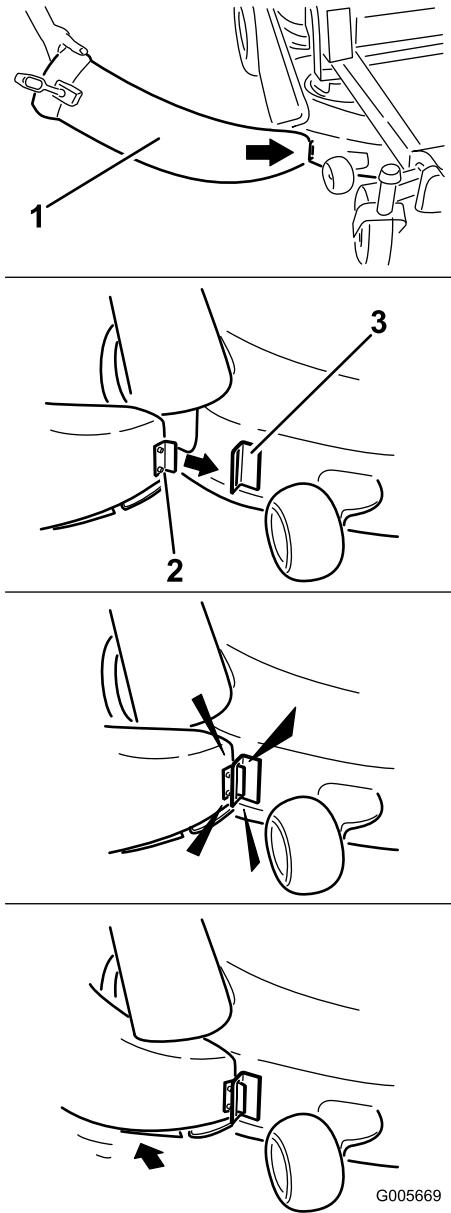

Figure 14
4. Angle the metal tab at the front of the chute into the slot in the bracket welded to the mower deck just in front of the cutout (Figure 14).
5. Pivot the chute back and toward the deck so chute is flush with the mower deck (Figure 14).